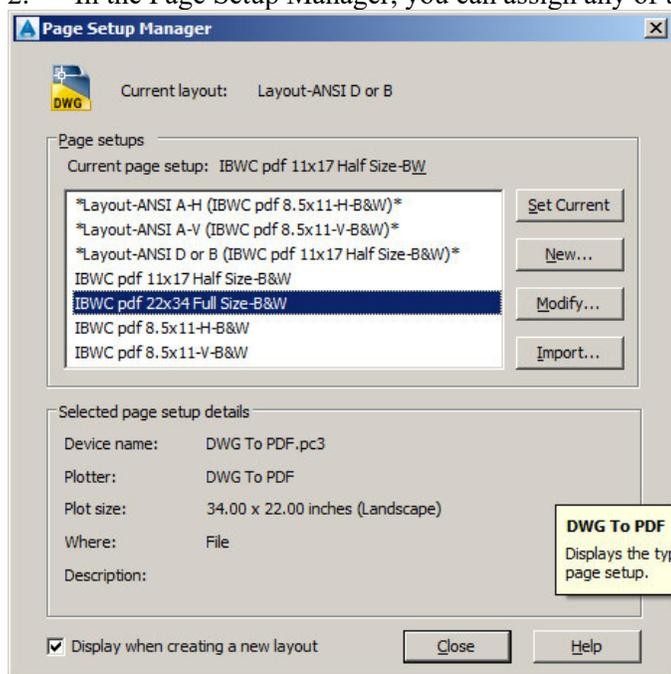

Figure 11-Page Setup Manager
1. To open the Page Setup Manager, click on any layout tab. Next, right click on the layout tab and choose "Page Setup Manager..." Figure 11 will open.